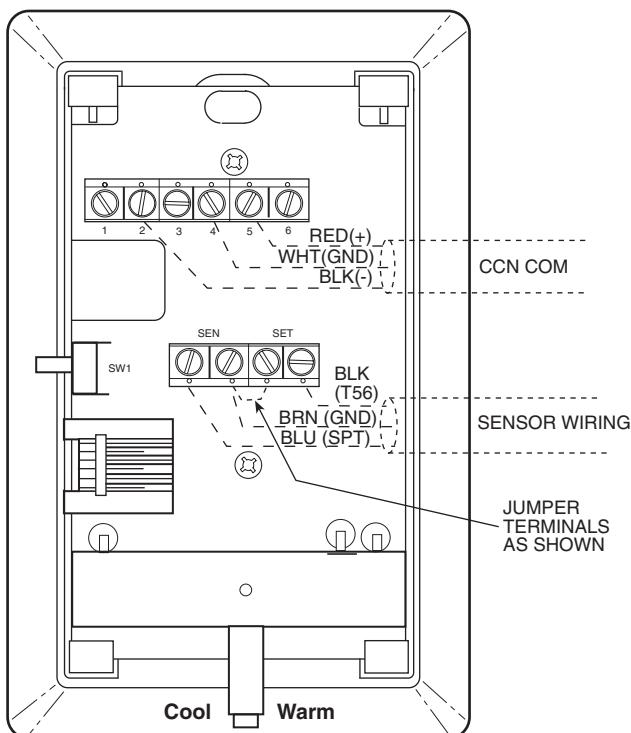

Fig. 3 — Space Temperature Sensor Typical Wiring (33ZCT56SPT)
- e. On 33ZCT56SPT thermostats install a jumper between the two center terminals (right SEN and left SET). See Fig. 3.